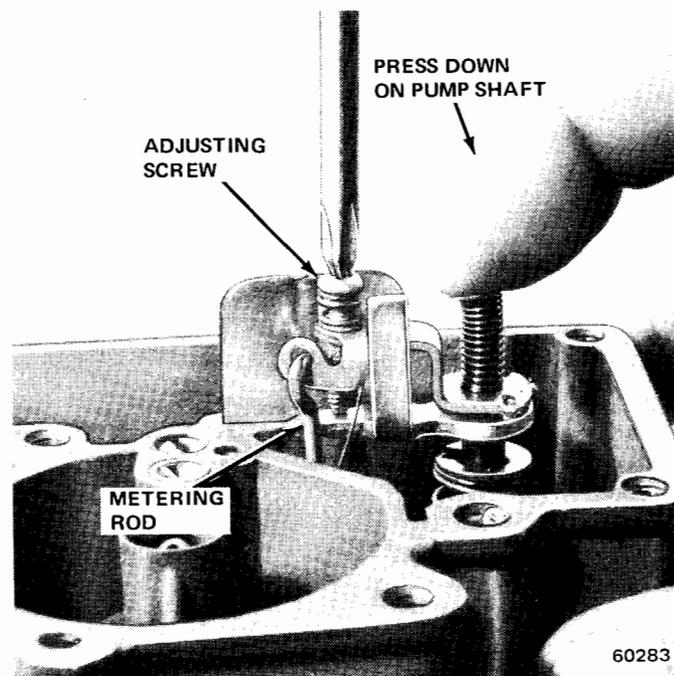

Fig. 4-28 Metering Rod Adjustment
(1) Remove carburetor air horn and gasket from carburetor.
(2) Back out idle speed adjusting screw until throttle plate is closed tight in throttle bore.
(3) Press down on end of pump diaphragm shaft until assembly bottoms.
(4) To adjust metering rod, hold diaphragm assembly as in step (3), above, then turn rod adjustment screw until metering rod just bottoms in body casting (fig. 4-28).